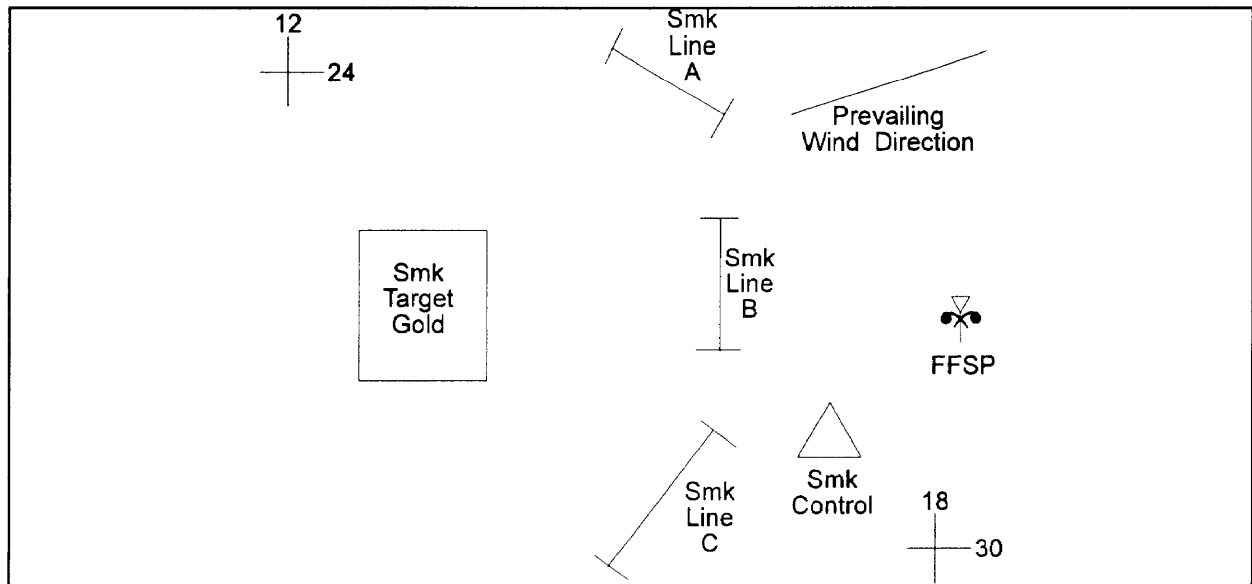

Figure A-2. Example of a smoke overlay (with the supported unit's graphics omitted).
**Step 3.** Plot lanes (mobile) or the approximate location of individual generators (static), planned fires, supported and supporting elements, fuel supply points, and enemy locations. Shifts in the direction of the wind may cause the smoke control officer to shift assets to alternate numbered positions to continue the mission. The overlay will facilitate this process and avoid confusion. Each leader who has the responsibility to control smoke units should have a copy of the overlay. Figure A-2 is an example of a smoke overlay.